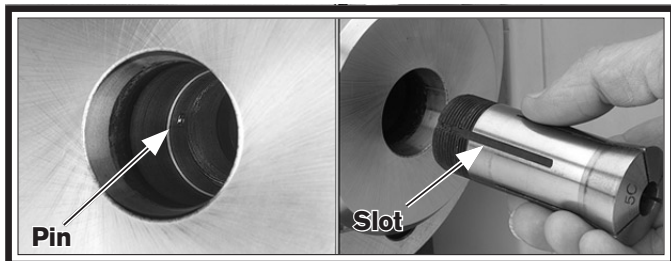

Figure 10. Collet alignment.
20. Align the slot in the collet with the pin in the collet adapter, and install the collet, as shown in **Figure 10**.